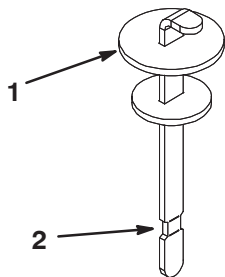

Figure 15
4. Remove dipstick from filler neck and wipe it with a clean rag. Insert dipstick into filler neck; then remove it and check level of fluid. Fluid level should be up to mark on dipstick (Fig. 15).